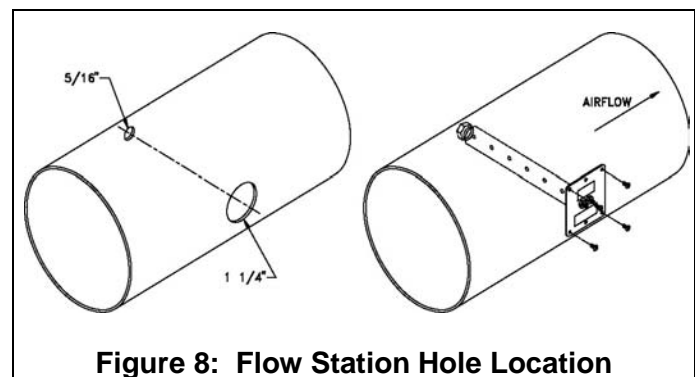

Figure 8: Flow Station Hole Location
- 2) Drill a 1¼" hole in the side of the duct work. If probe is longer than 18 inches, drill a 5/16" hole directly across from the 1¼" hole (Figure 8).
- 5) Screw the flow station into place with sheet metal screws (screws not provided by TSI). On 18 inch and longer flow stations tighten the 5/16" nut. The finished installation should look like Figure 8.